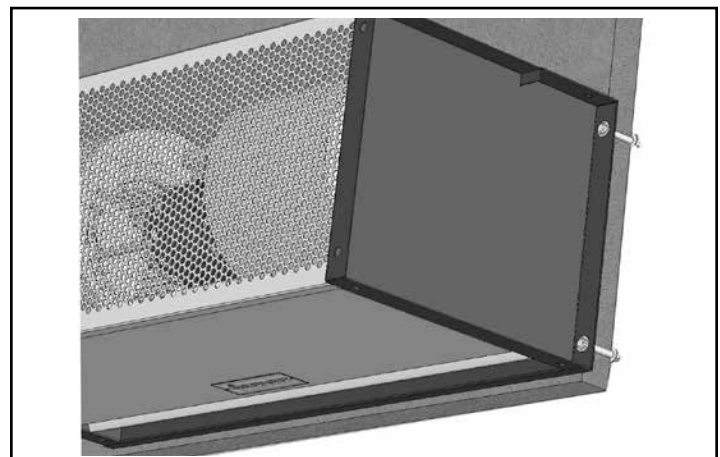
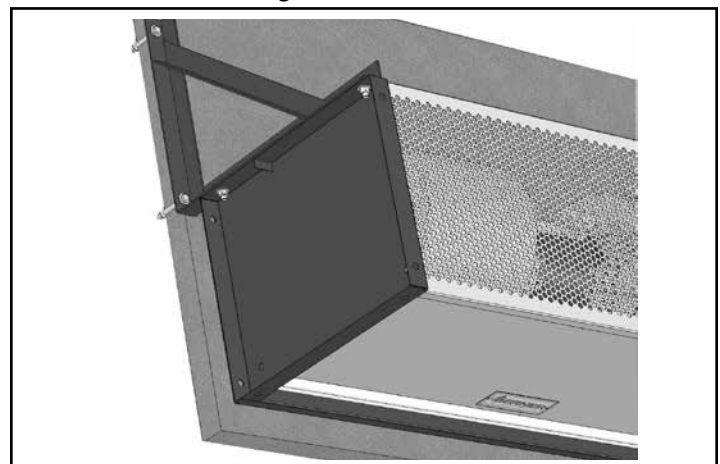

FIGURE 1 - Wall Mounting
FIGURE 2 - Wall Mounting Bracket
B. The VS and KS Series end plates are equipped with $\frac{1}{2}$ " holes for wall mounting. The unit may be attached to the wall using, at minimum, $\frac{3}{8}$ " bolts through the holes on the back of the end plate. **See Figure 1.** Or, the unit may be attached using an optional wall mounting bracket or a combination of extension and wall mounting brackets (available from Berner) attached to the holes on the top of the end plate and the wall. **See Figure 2.**